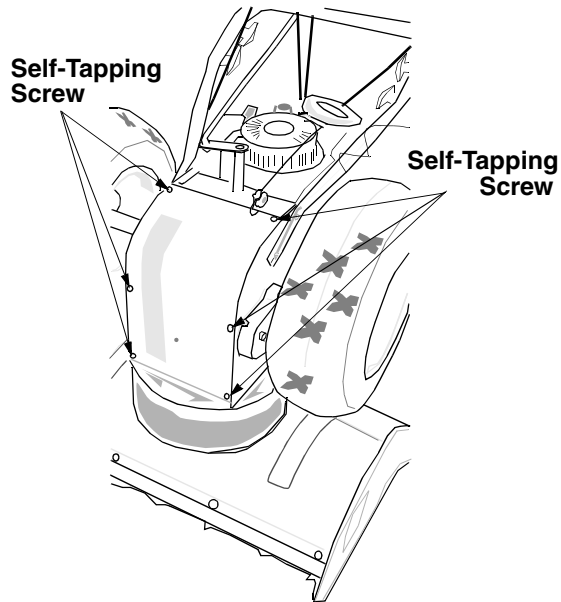

Figure 12
- Remove the six self-tapping screws from the frame cover underneath the snow thrower. See Figure 12.
- Remove six screws from the frame cover underneath the snow thrower. Refer to Figure 12.